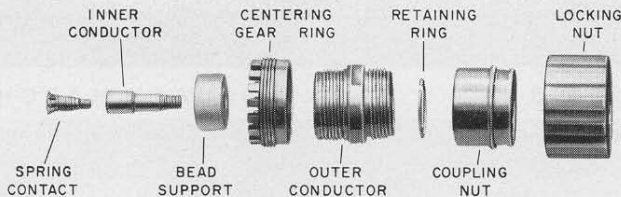

Figure 1. Exploded view of the Type 900-BT Precision Coaxial Connector.
The TYPE 900 Connector is intended for use on rigid air-dielectric, 9/16-inch, 50-ohm coaxial transmission line (principal dimensions: 0.5625 inch and 0.24425 inch). The connector (Figure 1) consists of (1) a solid silver-alloy inner conductor and spring contact, (2) a solid coin-silver outer conductor, stainless-steel centering gear ring, and locking nut, and (3) a solid Teflon bead support. The connector is attached to the air line by a coupling nut and retaining